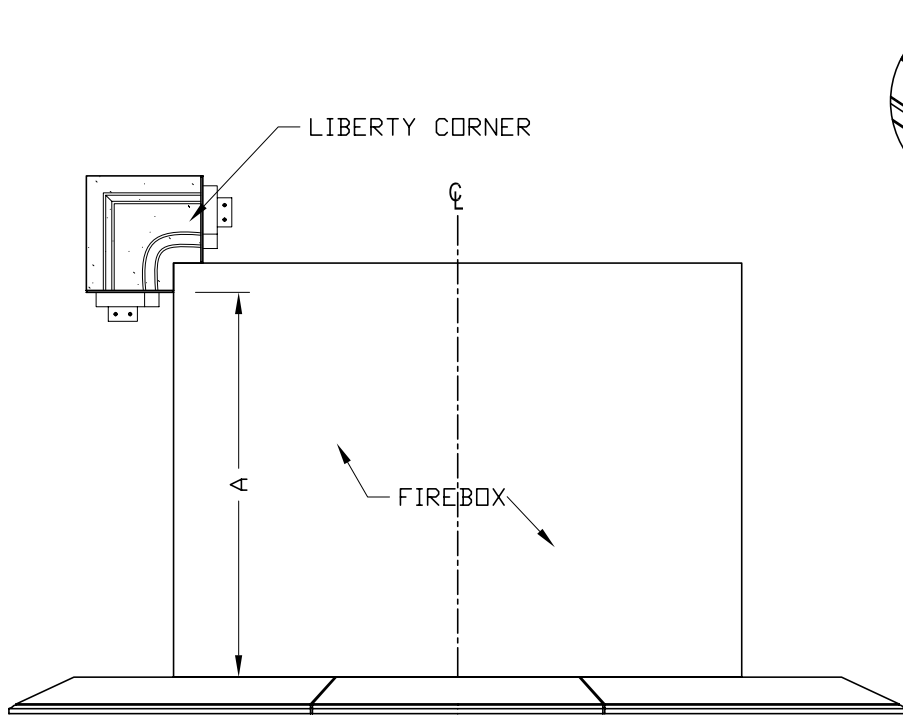

Fig. 1-1
- (a) Place left Liberty corner piece to left corner of firebox and measure the required height “A” (Fig. 1-1).